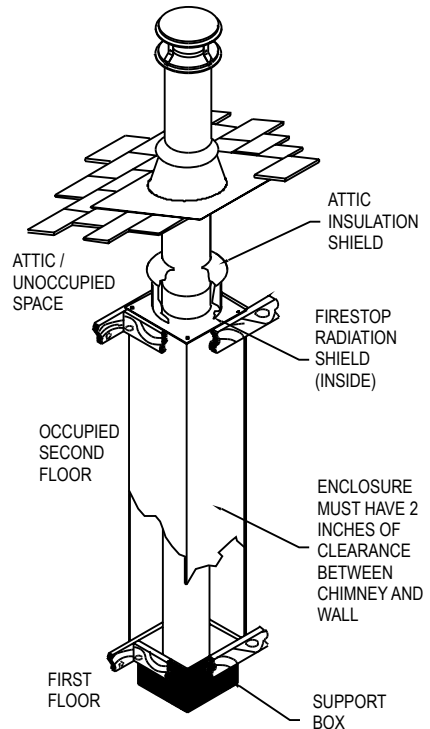

Figure 2
**Through Rooms:** Interior chimneys shall be enclosed where they extend through closets, storage areas, occupied spaces, or anyplace where the surface of the chimney could be contacted by persons or combustible materials. Maintain at least a 2-inch air space between the outer wall of the chimney and the enclosure (**Fig.2**).